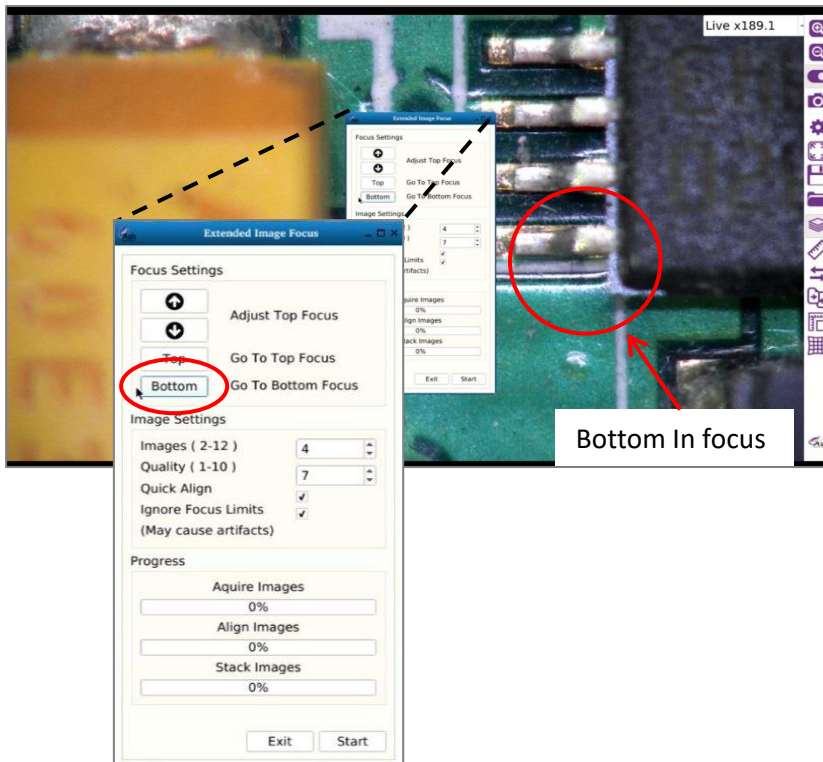

Fig. 30
2. Click on the **Go to Bottom Focus** button and then manually adjust the height of the camera until the bottom of the image is in focus (Fig. 30).